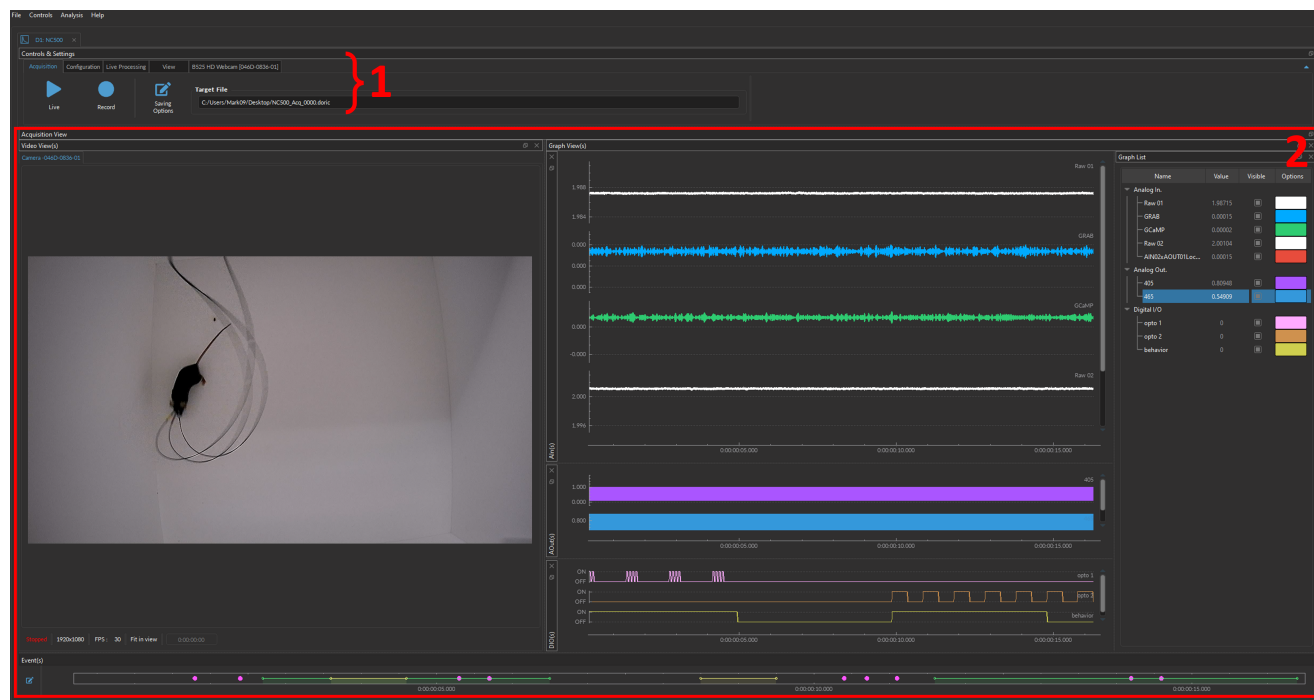

Figure 11.4: NC500 interface
The **NC500** interface is split into two main sections (Fig. 11.4):
1. The **Control & Settings** tabs (Fig. 11.4, 1) contains all the functions and tools of the NC500 interface. The **Controls & Settings** are split into three tabs, which will be detailed in the following sections:
2. The **View** section (Fig. 11.4, 2) displays information corresponding to each **Control & Settings** tab:
- a) The **Acquisition View** (Fig. 11.4, 2) visualizes the input and output traces and/or images in real-time as data is collected, and can only be accessed by selecting the **Acquisition** tab.